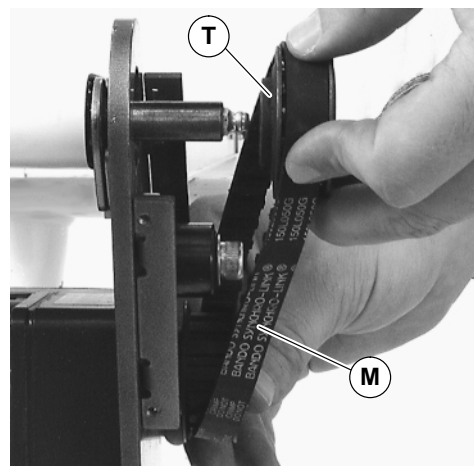

Figure 12
3. Remove timing belt (M of Figure 12).
**NOTE:** If timing belt does not slide over pulley flange, loosen driven pulley set screws (T of Figure 12) and remove pulley with belt. For re-installation, see steps 5 through 8 on page 5.
4. Remove timing belt (M of Figure 12).